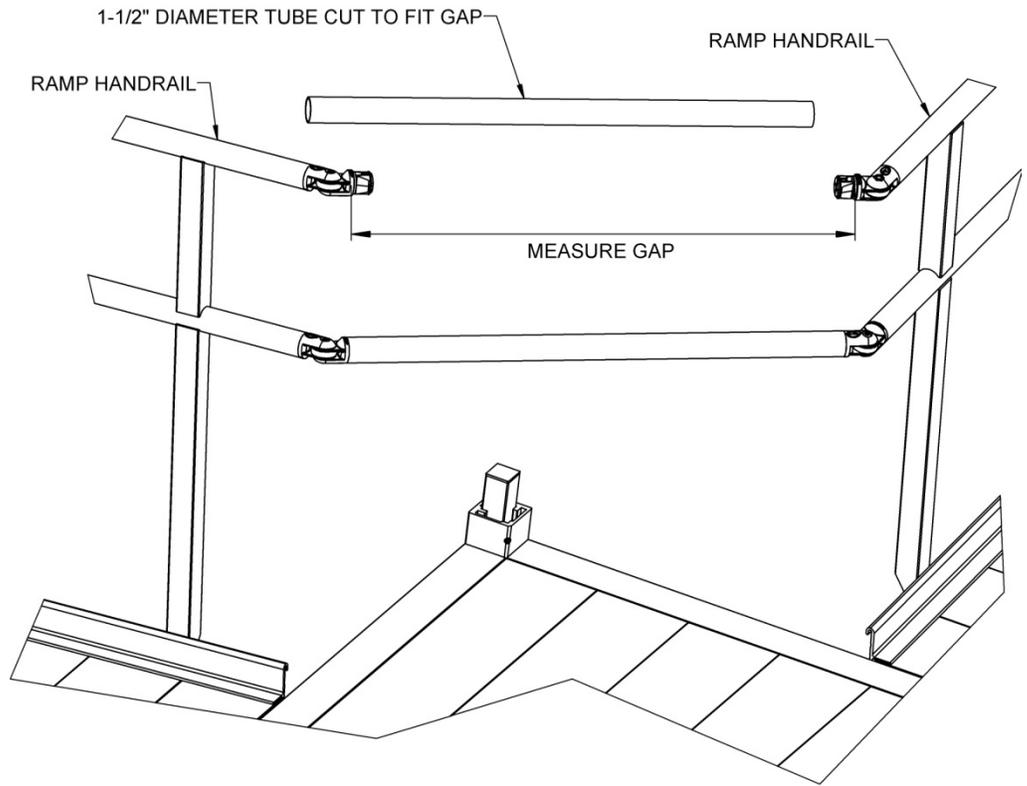

FIG. 6.2
6.1.2. Position both until they are aligned (do not tighten), and measure the distance between the two larger round faces (FIG. 6.2). **NOTE:** The gap in the upper and lower handrail will be different. Be sure to measure both before cutting the round tube.
- 6.1.3. Cut the 1-1/2" diameter round tube to the length measured (FIG. 6.2).